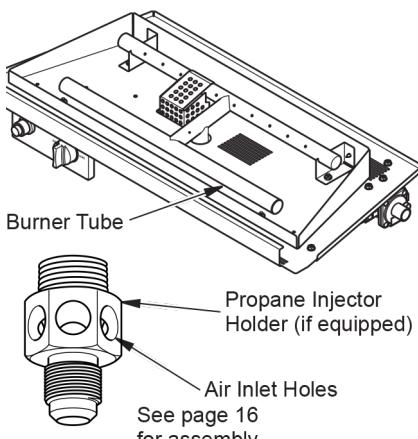

Figure 30 - Burner and Propane Injector Holder (if equipped)
3. Inspect burner, pilot and primary air inlet holes on propane injector holder (if equipped for propane gas) for dust and dirt (see Figure 30).